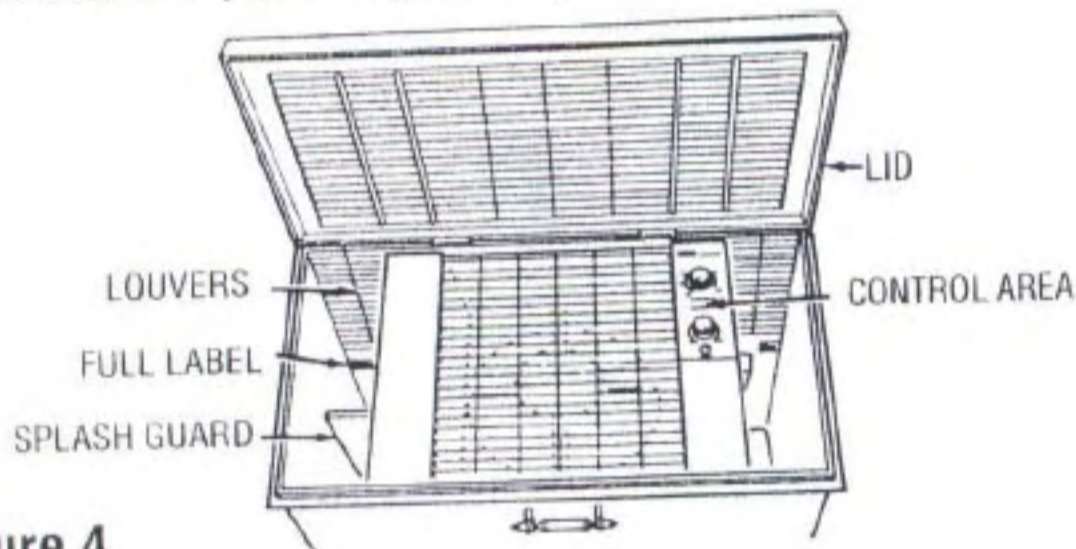
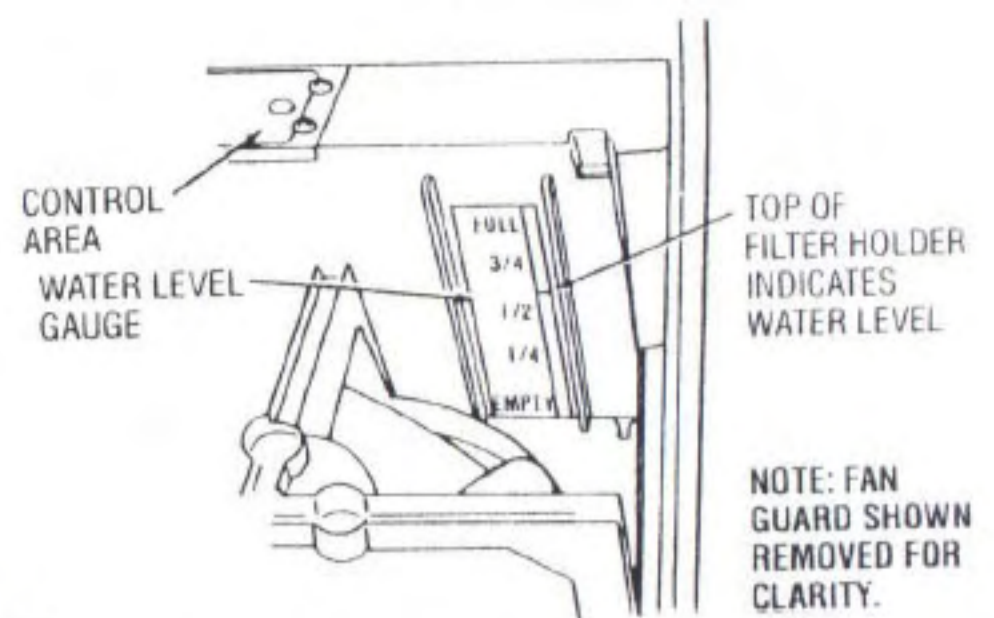

Figure 4
Figure 6
2. Locate the controls on the right side of the humidifier. (See Figure 4.)
4. Using a bucket or a fill hose, fill the tank with water up to FULL indicator label located inside the housing (See Figure 4). A water level gauge, visible through the fan guard, will indicate "EMPTY, 1/4", 1/2", 3/4", or FULL" condition (Figure 6). The top of the filter holder indicates the water level.
1. Be sure the unit is plugged in and full of water. (Check the water level gauge, Figure 6.)